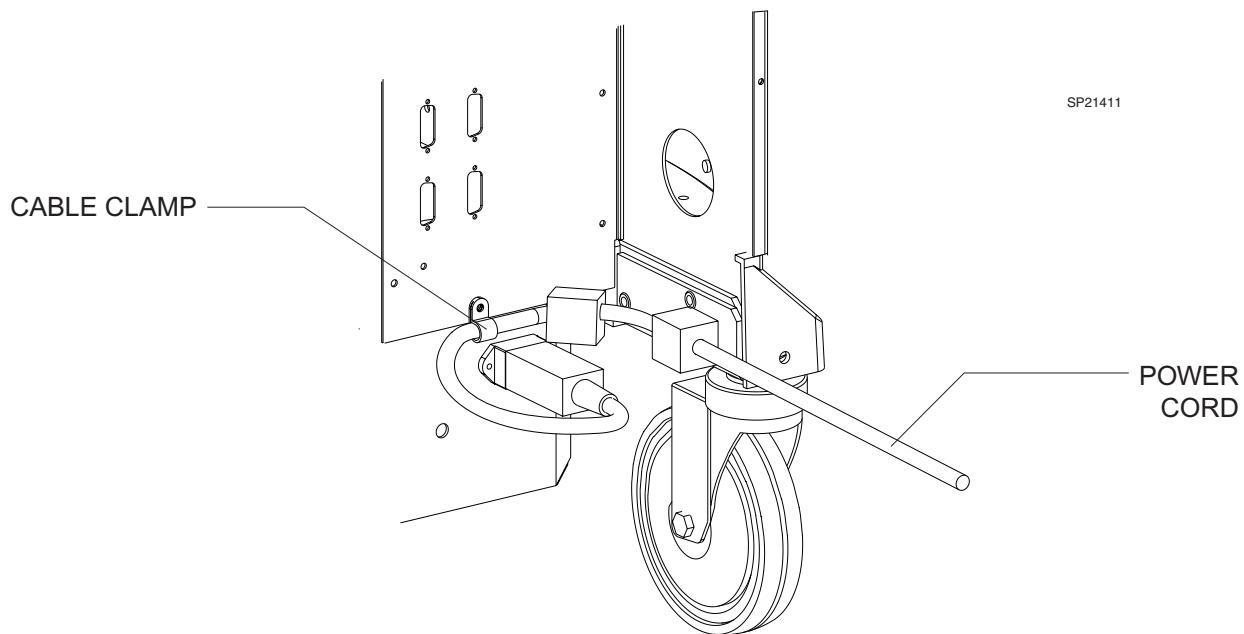

FIGURE 14. Power Cord Routing
- 6.30 Route the power cord's strain relief with a loop in a clockwise direction. The retaining clip shall be located $16.6 \pm \frac{1}{4}$ in. (5.25 in. diameter loop approx.) from the cord end, and secured to the Vitalbus Hub door using the mounting hole directly above the power cord socket as shown in Figure 14.